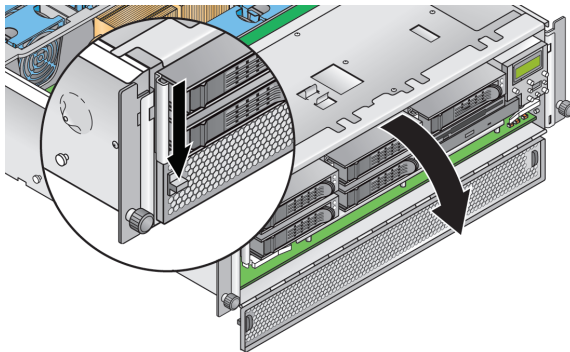

FIGURE 13 Opening the CPU Card Door
2. Open the CPU card door, which is located under the hard drive bays, to access the CPU card. Press in the two buttons on the door and swing it downward so that it is open 180-degrees from the closed position (see FIGURE 13).